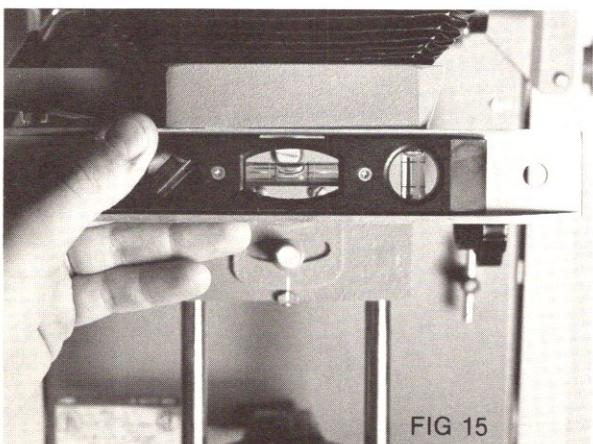

FIG 15
- b. Place a bubble level or carpenters square in contact with the underside of the lens stage casting (see fig. 15). Level by moving the lens stage from side to side. The lens stage should be parallel to the baseboard.